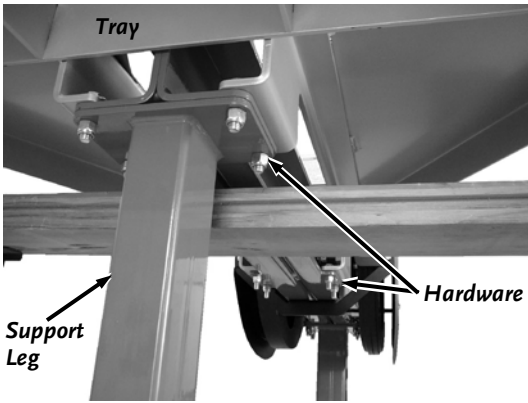

Figure 4
5. Position the Tray onto the mounting holes of the Frame and loosely reinstall the four rear Bolts and Locknuts into the Tray and Frame (**Figure 4**).